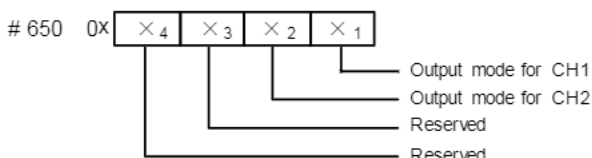

Figure 2-1 Mode setting element vs. channel
- BFM#650: output mode selection, used to set the output modes of CH1 ~ CH2. See Figure 2-1 for their correspondence.